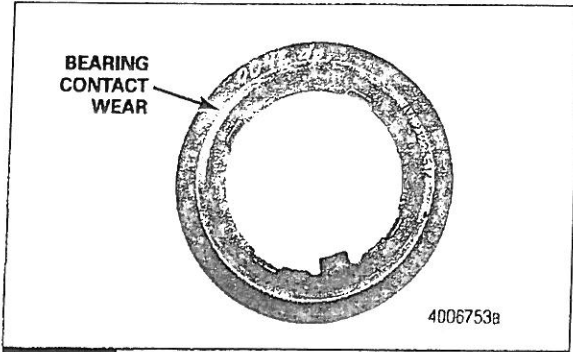

Figure 9
3. Inspect the inboard face of the stake washer for wear or an indent from the bearing contact face. Figure 9.